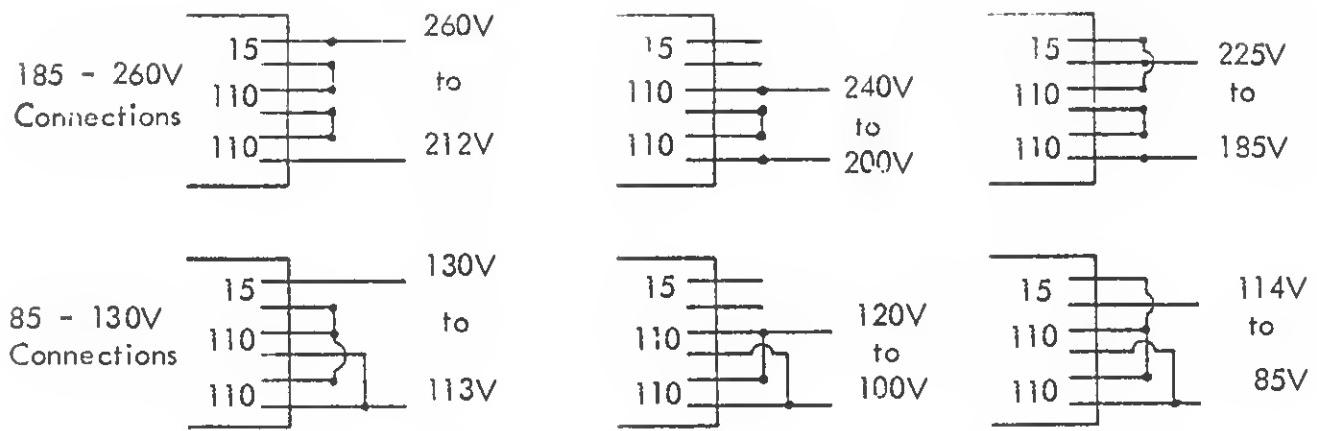

Figure 2. Transformer Connections
- 5.11 The AC input to the supply is taken via S1A and S1B and a 5A Delay fuse to the two transformers T1 and T2 whose primary windings are connected in parallel across the supply. Interconnection of the voltage tappings on the primary windings give a wide range of input voltages, see Figure 2.